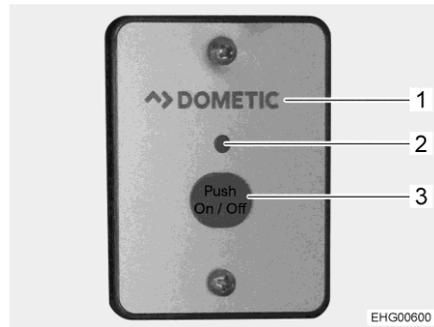

Fig. 142 External switch (AC converter)
The external switch (Fig. 142,1) is installed in the wall-mounted cupboard above the table.
- Press "On/Off" button (Fig. 142,3). The LED (Fig. 142,2) is on.
- Press "On/Off" button (Fig. 142,3). The LED (Fig. 142,2) goes out.